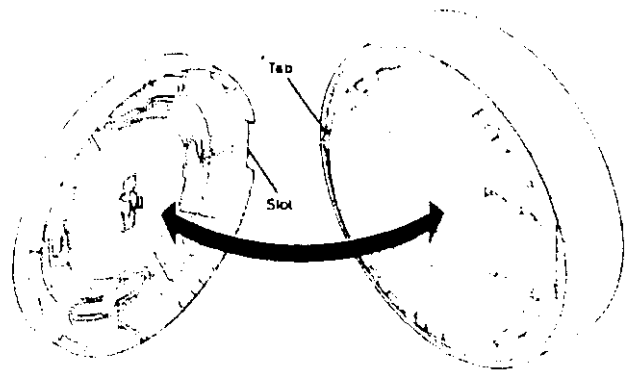

Figure 3
- Line up the raised tab on the lip of the detector with the slot on the lip of the mounting base. See Figure 3.
- Line up the raised tab on the lip of the smoke detector with slot on the lip of the mounting base. See Figure 3.